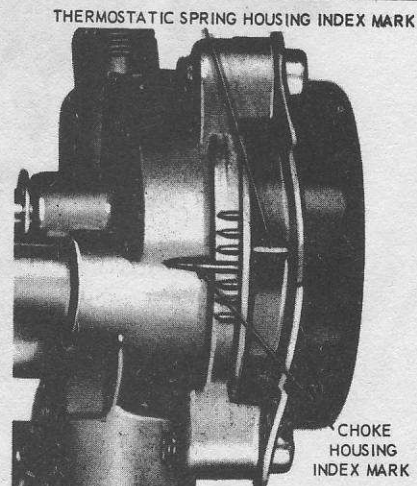

Fig. 3.26 Automatic choke thermostatic spring housing adjustment (2100 carburetor) (Sec. 15)
- 3 Set the spring housing to the specified index mark, (see Specifications at the beginning of this Chapter). Turning the housing clockwise will give a leaner mixture (Fig. 3.26).